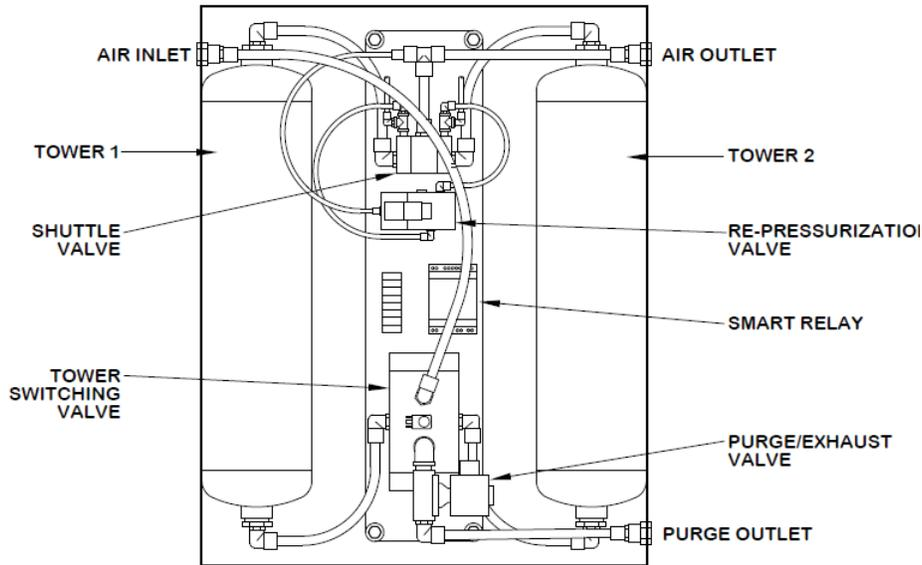

Fig. A.3.1 Desiccant Dryer Assembly
2. Remove front panel from cabinet (See FIG A.3.1).